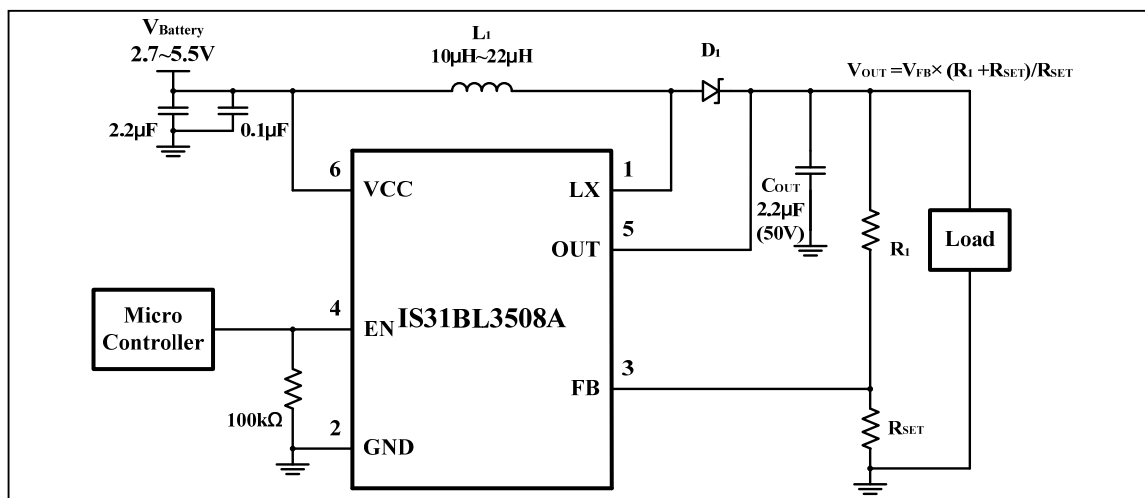

Figure 4 Constant output voltage for general purpose use
The IS31BL3508A can be configured to provide a constant output voltage (Figure 4). The output voltage level can be computed using the following Equation (5). The device internal V_{FB} is 0.3V (typ).